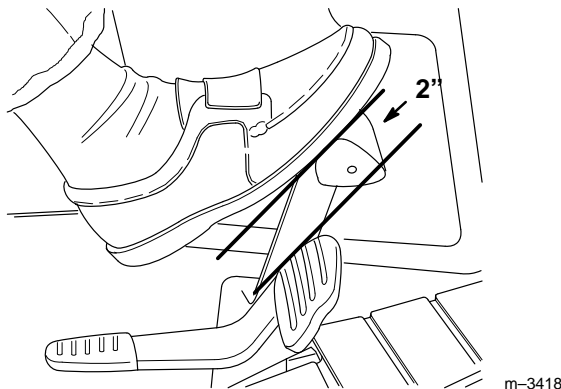

Figure 33
3. Depress the brake pedal. There should be 2" (51 mm) of free travel (Fig. 33) before the brake begins to engage.